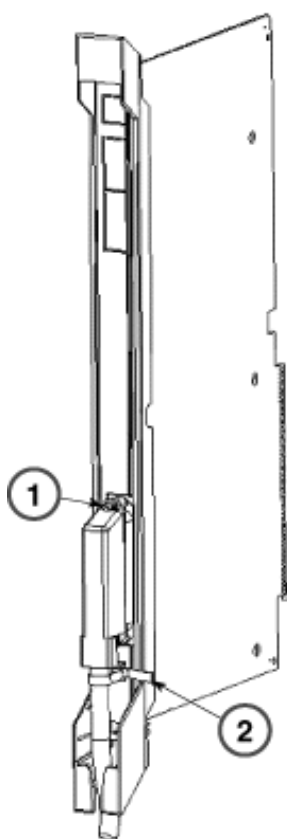

Figure 3-14. Connecting the Amphenol Connector to the Front of the TDL Module
1. Attach the male end of the 25-pair cable to the amphenol connector on the front of the TDL module as shown in Figure 3-14. Screw the top of the amphenol cable hood into the connector on the TDL module.